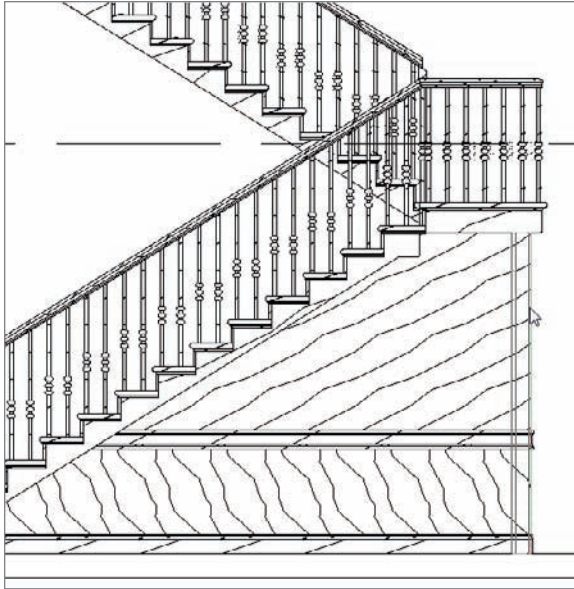

FIGURE 16.18 Placing the sweep on the corner
11. Place a vertical rail about 1'-0" in from the right corner, as shown in Figure 16.18.